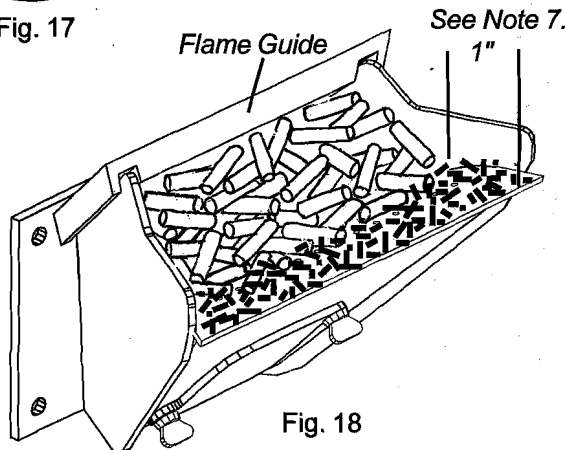

Fig. 18
7. Setting the feed adjuster # for maximum burn: With the unit burning in "AUTO", turn to "Stove Mode" and put the fan on "H". Set the Temperature Dial to #7. Allow the unit to burn for about 30 minutes and check ash on front of burn pot. Fig. 18. If the ash line is larger than 1", turn the feed adjuster from #4 to #5. Allow another 30 minutes of burn time and check again. If, at #6 setting, a 1" or less ash bed is not obtainable, it is not a problem. The 1" ash bed is only a maximum burn rate and at most normal settings the ash bed will be larger.